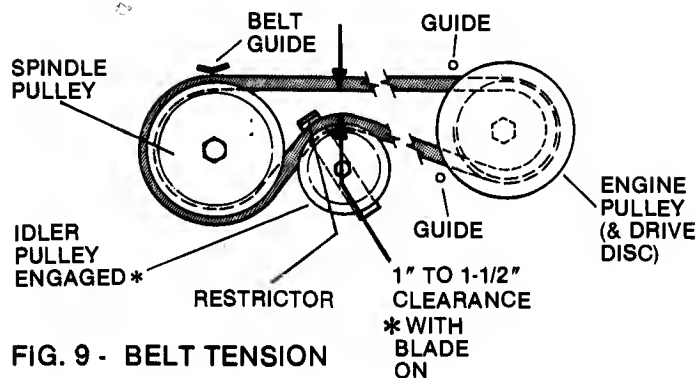

FIG. 9 - BELT TENSION
With the mower deck in #5 height position and the blade in the ON position, check the distance between the inside surfaces of the belt as shown in FIG. 9. The belt tension is adjusted by changing the "distance" between the front axle and the rear case. Loosen nut (Y) at the main tube clamp (X) beneath the main channel (under seat) and pull the front assembly FORWARD to increase belt tension until the correct amount is achieved. Then retighten nut (Y).
If belt becomes frayed, cracked, or worn, replace as follows: Remove the BELT COVER, then cut and remove the old belt. To install new belt, close fuel cap (10-C) valve. Stand mower on REAR BUMPER (14-C), shift into NEU. position, work belt between discs, shift into #5 speed and push belt over edge of engine drive disc. Work into the groove of the drive disc, then connect other end to pulleys on mower deck as follows: Loosen or remove the idler pulley, loop the belt around spindle pulley as shown in FIG. 9 and work belt between restrictor and idler pulley. Make sure locking tab on restrictor is engaged in idler arm before securing idler arm nut and bolt. Check and adjust belt tension as needed before reinstalling BELT COVER.